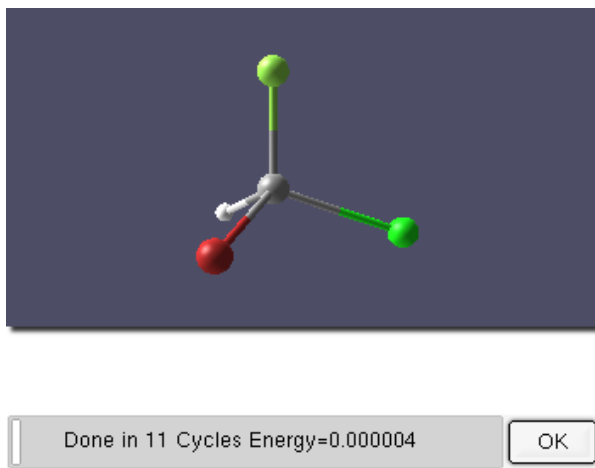

Figure 4.30: Geometry optimization results
**PQSMoL** has the capability to perform an initial geometry optimization using one of two built-in force fields. The default force field is Sybyl5.2 (this can be seen in the status bar at the bottom of the *Build window* in Figure 4.30) which is perfectly adequate for this example.
To run the optimizer press the **Optimize** button  in the top toolbar. Figure 4.30 shows the result.